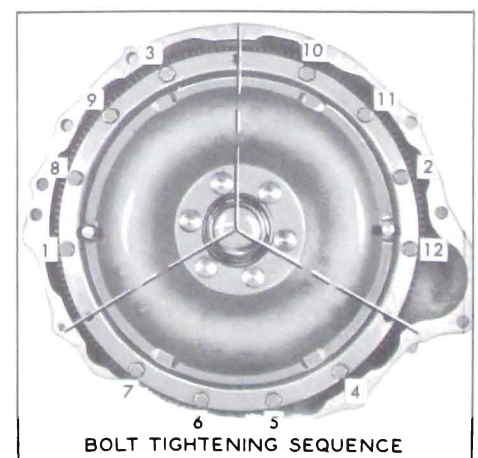

Figure 5-133—Bolt Tightening Sequence
20. Install bolts in all but the three driving bolt holes, insert the shank of a 11/32" drill through one bolt hole to align all holes, then tighten bolts to approximately 5 ft. lbs. torque in numerical sequence shown in Figure 5-133. Finally tighten bolts in same sequence to 25-30 ft. lbs. torque.